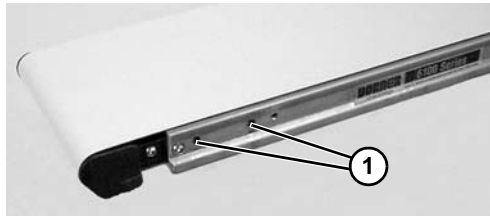

Figure 12
5. On side opposite drive output shaft, remove two screws (Figure 12, item 1).